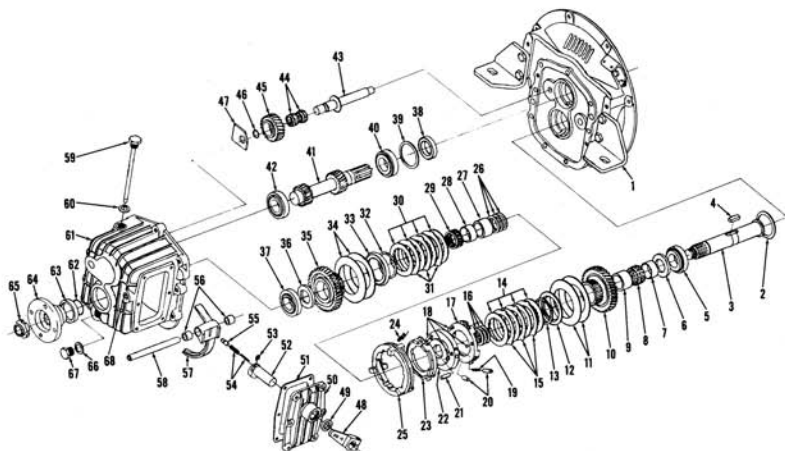
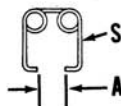

Fig. Y1-36—Exploded view of KBW-10 transmission.
Fig. Y1-42—Pressure plate return spring (S) end gap (A) should be 17.0-17.5 mm.
OVERHAUL. Disassemble transmission by removing locknut (65—Fig. Y1-36), coupling (64), seal (63) and "O" ring (62). Remove side cover (50) with shifter assembly intact. Remove shift bar plug (68) using an 8 mm Allen wrench, pull shift bar (58) out rear of case after installing a 10mm bolt in threaded end of shift bar, and lift out shift fork (57). Remove mounting flange (1) leaving alignment pins in mating surface of case (61). In the following order, lift output shaft assembly (3—Fig. Y1-37), intermediate shaft assembly (43) and input shaft assembly (41), from case (61), in that order. Using a suitable puller, remove outer races of input and output shaft rear bearings (37 and 42—Fig. Y1-36) from case (61). Using a suitable puller, remove outer races of input and output shaft front bearings (5 and 40) from mounting flange (1). Be careful not to intermix or lose input shaft adjusting shim (39) or output shaft
sure forward gear parts and reverse gear parts are not mixed together. Remove spacer (9—Fig. Y1-36) and bearing race (7) from output shaft (3). Secure output shaft threaded end so threads are protected, and place outer race over bearing (5). Using a suitable bearing driver gently drive inner bearing race away from shaft collar approximately 10 mm. Place pulling support plate, Yanmar special tool 17099-09030, between collar of output shaft and bearing. Using Yanmar special tool 17095-09070, as shown in Fig. Y1-39, complete removal of output shaft from support bearing using a press or hammer.
Remove friction plates (14—Fig. Y1-36) and steel plates (15) from forward gear (10). Using Yanmar special tool 17095-09070, compress Belleville springs (11) and remove snap ring (13) from forward gear as shown in Fig.
Lay shift ring and pressure plate assembly flat and remove pressure plate return springs (24—Fig. Y1-36), then lift off top pressure plate (17) and remove steel balls (18). Lift shift ring (25) and driving plate (22) off bottom pressure plate and remove three remaining steel balls. Slip shift ring (25) off driving plate (22), remove alignment pins (21) and detent pins (20) with springs (19) from driving plate (22).
Thoroughly clean and inspect all parts prior to reassembly paying particular attention to the following items: When measured as shown in Fig. Y1-41 steel plate warp must fall between 1.4 and 1.7 mm. Measure width of steel plate (15 and 31—Fig. Y1-36) tangs and grooves in pressure plates (17 and 23); clearance should be 0-0.6 mm. Steel plate tang width should be 11.8-12.0 mm and pressure plate groove width should measure 12.0-12.1 mm.
Inspect pressure plate (17 and 23—Fig. Y1-36) ball grooves for wear and renew plate if wear is noticeable. Friction plate contact surface thickness should measure 6.3-6.6 mm. Return spring end gap (A—Fig. Y1-42) must be 17.0-17.5 mm.
Plate spring retainer (12 and 33—Fig. Y1-36) thickness (T—Fig. Y1-44) should measure 2.6-2.8 mm. Inside diameter (I) should be 57.6-57.8 mm and retainer hub outside diameter (D) must measure 65.7-66.0 mm. Belleville spring (11 and 34—Fig. Y1-36) free width should be 6.0-6.35 mm.
Shift ring contact surface of shift fork (57—Fig. Y1-36) is plated with molybdenum. Renew shift fork if plating is peeled or shift fork base metal is exposed.
To reassemble transmission install Belleville springs (11—Fig. Y1-36) on forward gear (10) so concave sides are facing each other as shown in Fig. Y1-46. Position retainer (12—Fig. Y1-36) over Belleville springs and slide snap ring (13) onto spline of forward gear. Using Yanmar special tool 177095-09070, compress forward gear assembly in a vise and engage snap ring (13) in groove around forward gear splines. Reassemble reverse gear (35), Belleville springs (34), retainer (33) and snap ring (32) in same manner as forward gear.
Alternately install four friction plates (14—Fig. Y1-36) and three steel plates (15) on forward gear (10) splines starting with a friction plate. Assemble reverse gear (35), steel plates (31) and
To determine the correct thickness for input and output shaft adjusting shims (2 and 39 - Fig. Y1-36), first install input and output shaft rear bearing outer races in case, making sure race is bottomed in case bore. Install output and input shaft assemblies, in that order, in case checking that all gears are properly meshed and shifter ring is in neutral. Support case so no pressure is being applied to output shaft and install input and output shaft front bearing outer races on their respective bearings. Measure the distance from the top of each front bearing outer race to the mating surface of the case as shown in Fig. Y1-49; record this distance as a "B" measurement for future use. Next measure the depth of each front bearing outer race bore in the mounting flange as shown in Fig. Y1-50 and record this as an "A" measurement. Input shaft assembly requires a clearance of 0.0-0.05 mm. To determine thickness of shim (39 - Fig. Y1-36), subtract the "B" input shaft
Install correct input and output shaft front bearing shims in their respective mounting flange bores and using a suitable bearing race driver install outer front bearing races in mounting flange. Install input shaft oil seal (38 - Fig. Y1-36). Coat case mating surface with RTV sealer, install mounting flange and tighten bolts evenly. Place shift ring in neutral position and install shift fork (57) through side cover opening. Insert shift bar (58) through hole in rear of case while installing shift fork (57), then install shift bar plug (68). Be sure threaded end of shift bar is installed towards rear of case. Insert springs (54) and detent pin (55) into cam (52), and secure in place with snap ring (53). Install oil seal (49) in side cover (50) then insert shift cam assembly through side cover and secure in place with shift lever (48). Install side cover and tighten bolts evenly. Check operation of transmission, if lever operates normally a click will be heard when it is put into forward and reverse.